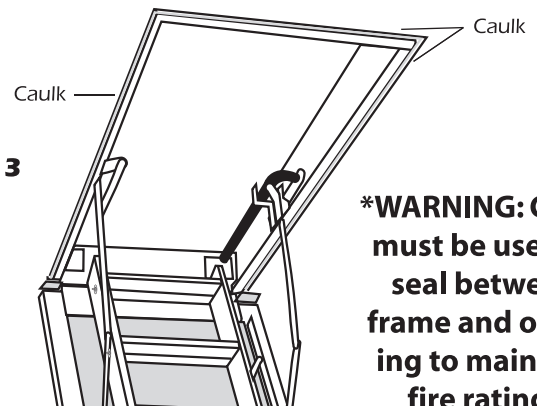

Fig. 13
Step 15- Walk up the stairs; and using the remaining caulk, seal the opening between the stairway frame and the rough opening. (See Fig. 13) Gap should not exceed 1/4".